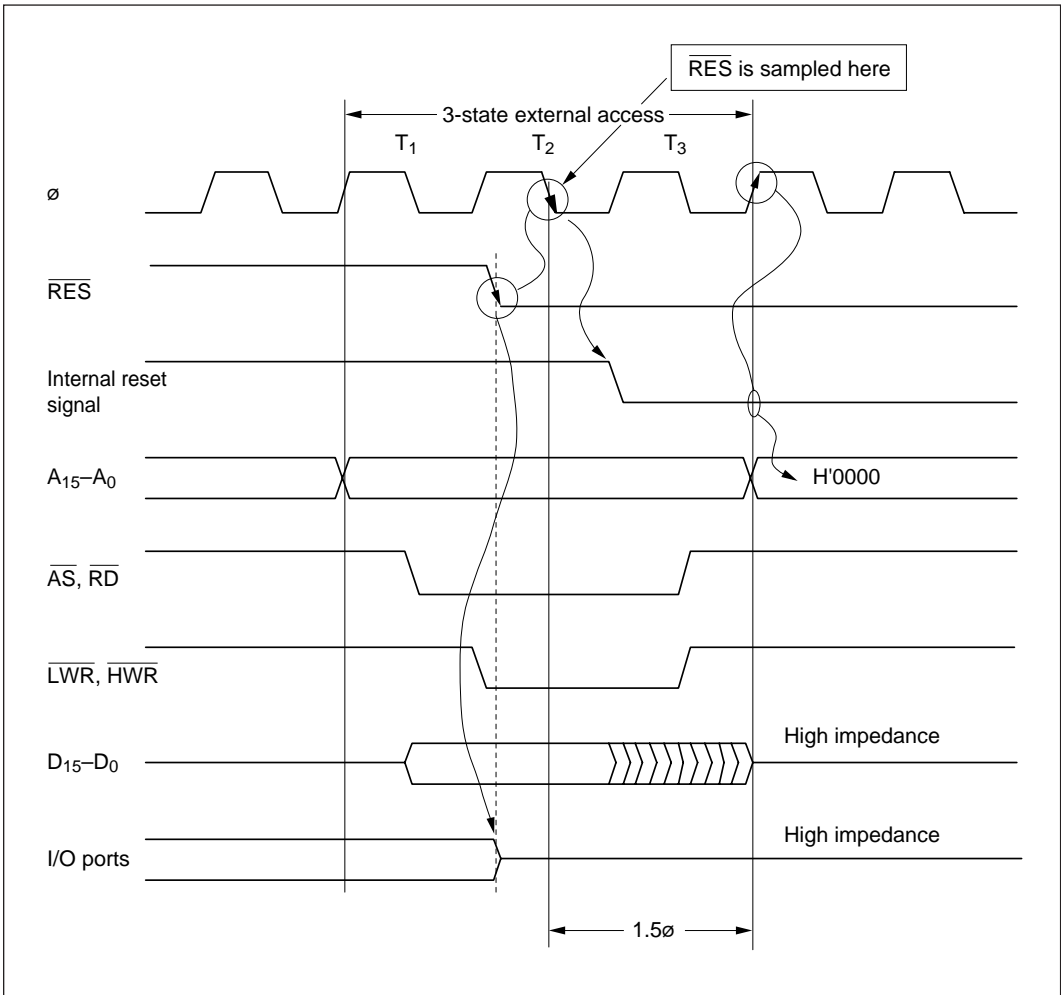

Figure G-1 Reset during Three-State Access (modes 1 and 6)
(1) Modes 1 and 6: Figure G-1 is a timing diagram for the case in which $\overline{\text{RES}}$ goes low during three-state access in mode 1 or 6. As soon as $\overline{\text{RES}}$ goes low, all ports are initialized to the input state. $\overline{\text{AS}}$, $\overline{\text{RD}}$, $\overline{\text{LWR}}$, and $\overline{\text{HWR}}$ go high, and D_{15} to D_0 go to the high-impedance state. A_{15} to A_0 are initialized to the low state 1.5 system clock cycles (1.5ϕ) after the low level of $\overline{\text{RES}}$ is sampled.